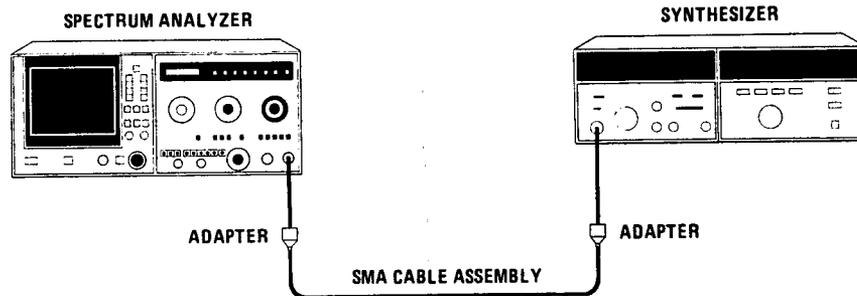

Figure 4-27. Image Responses Test Setup
1. Connect equipment as shown in Figure 4-27 with synthesizer output connected to analyzer input.